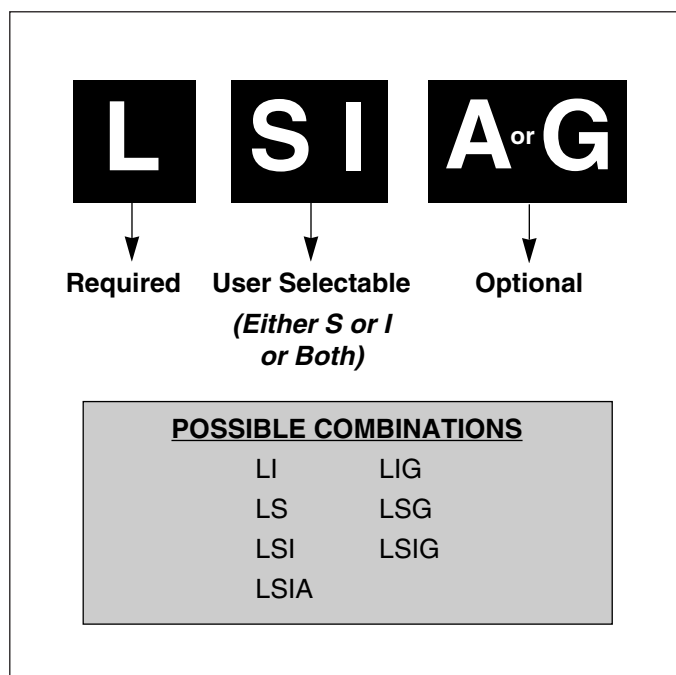

Figure 3-4 Overcurrent Protective Function Combinations
① No ground fault alarm (A) provided
② Refer to para. 3-2.3 and Figure 3-4 for details
③ Setting Tolerance ±5%
④ Setting Tolerance +0-30%
⑤ Setting Tolerance +10-40%
⑥ Setting Tolerance (See time-current curves)
⑦ Setting Tolerance ±10%
⑧ Setting Tolerance ±20%
⑨ Only available with LSIA
⑩ I_S (L & N-Frame), I_N (R-Frame, SPB, DSII/DSLII)
⑪ Contact factory or Vista for K-Frame availability
- If it is later determined that the Long Delay Setting (I_r) is to be 140 amperes in lieu of the original 100 amperes. The Long Delay Setting (I_r) can be re-programmed to $0.7 (I_n) = 0.7 (200) = 140$ amperes, the new required Long Delay Setting (I_r).
All Digitrip OPTIM Trip Units are available in six overcurrent protective function combinations of long, short, instantaneous and ground (Figure 3-4). When the protection functions are combined with slope adjustments I^4t , I^2t or Flat, the Digitrip OPTIM Trip Unit provides the following ten programmable curve shaping possibilities:
All Digitrip OPTIM Trip Units provide programmable long delay protection consisting of (Tables 3.2 and 3.3 and Figure 3-4):
instantaneous protection or without instantaneous protection. Either both, one or the other (short or instantaneous) must always be provided (Tables 3.2 and 3.3 and Figure 3-4). Short delay protection can consist of the following:
Instantaneous protection is selectable with all Digitrip OPTIM Trip Units. It can be selected in combination with short delay protection or without short delay protection. One or the other (instantaneous or short) must always be selected (Tables 3.2 and 3.3 and Figure 3-4). Instantaneous protection is provided via: